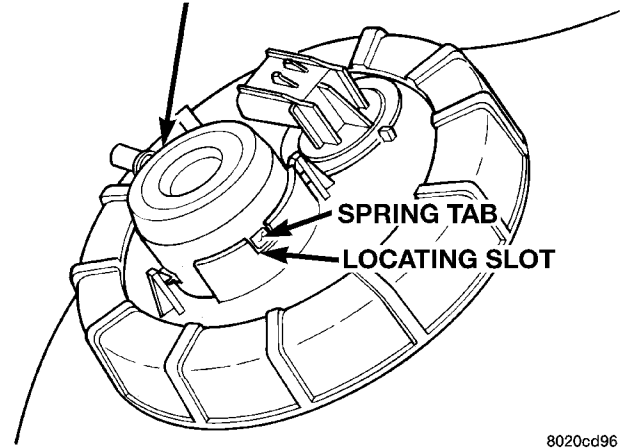

Fig. 19 Locking Spring Tab
(2) Raise vehicle on hoist.
(3) Disconnect fuel supply line at the Filter/Regulator nipple (refer to Quick Connect Fittings in this section).
(4) Depress locking spring tab on side of Fuel/Regulator (Fig. 19) and rotate 90° counter-clockwise and pull out.